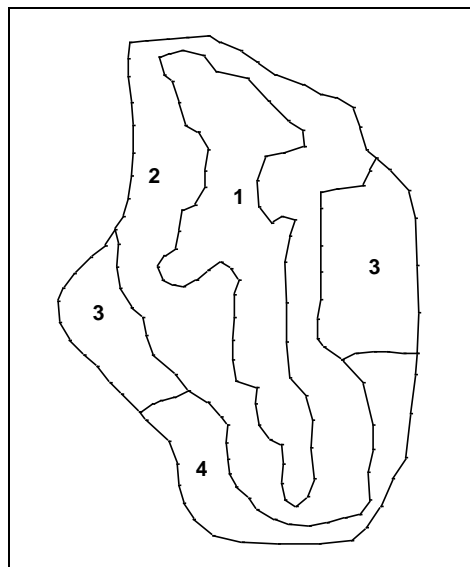

Figure 6 Hydraulic conductivity zones
4. Using the **Select Polygon**  tool and while holding down the *Shift* key, select the polygons labeled 1 and 2 in Figure 6.